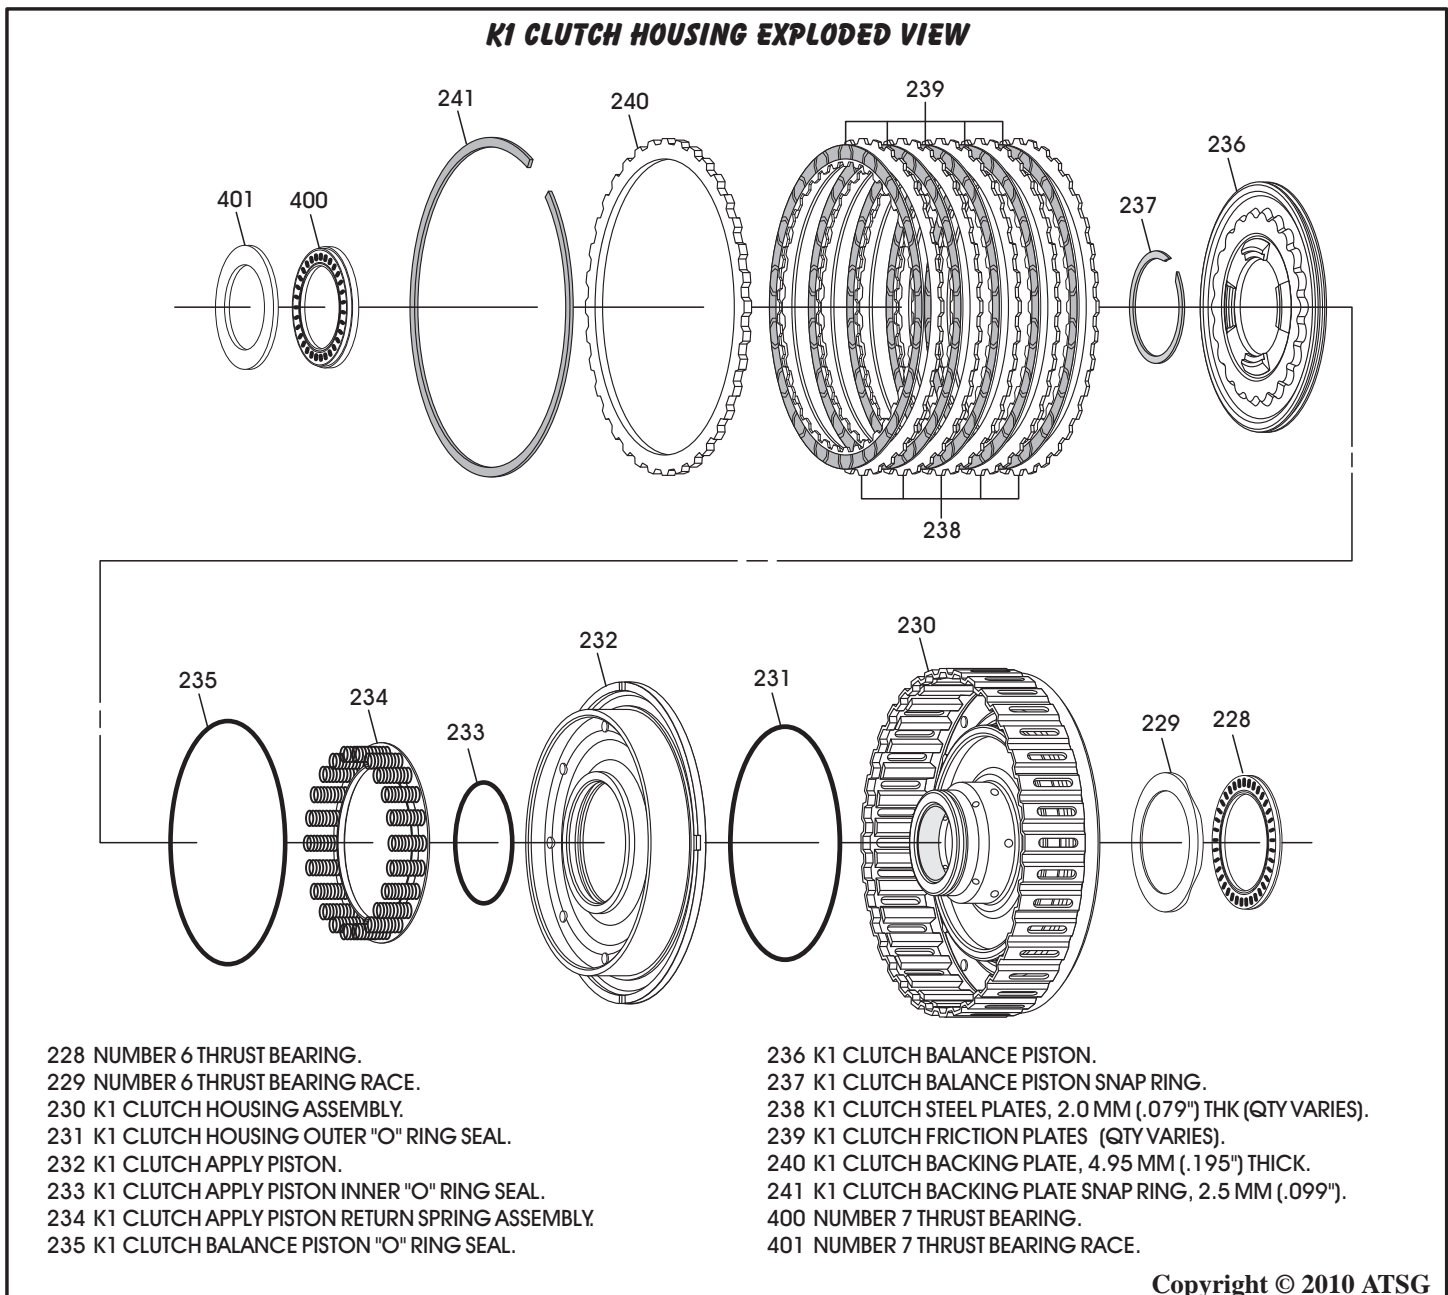

Figure 122
1. Disassemble the K1 clutch housing assembly using Figure 122 as a guide.